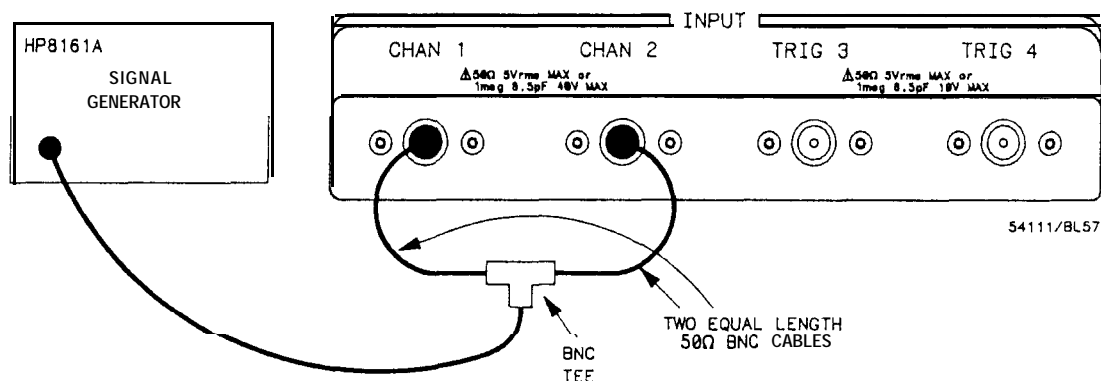

Figure 14-4. Channel Skew Instrument Setup.
- attach the BNC tee and equal-length cables as illustrated in figure 14-4.